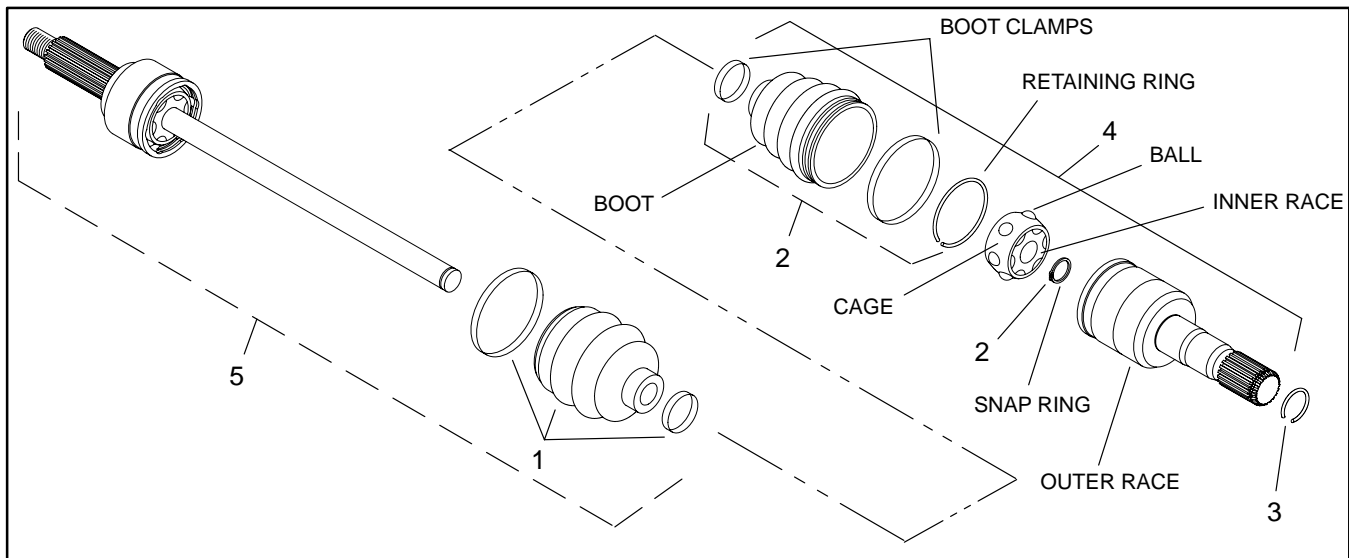

Figure 9
1. If necessary, install a new circular clip onto the splined (inboard) end of the CV joint. Grease with No. 2 general purpose lithium base grease (Fig. 9).
## Disassembly (Fig. 9)
## Assembly (Fig. 9)